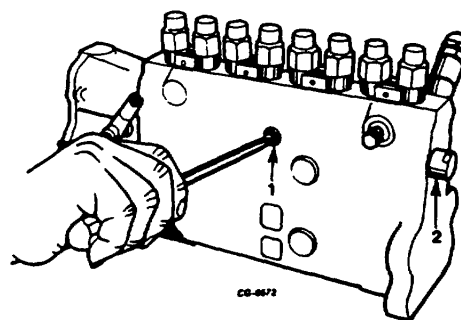

Figure 29. Removing Rack Position Screw
17. Remove control rack positioning screw and control rack end plug (Figure 29).